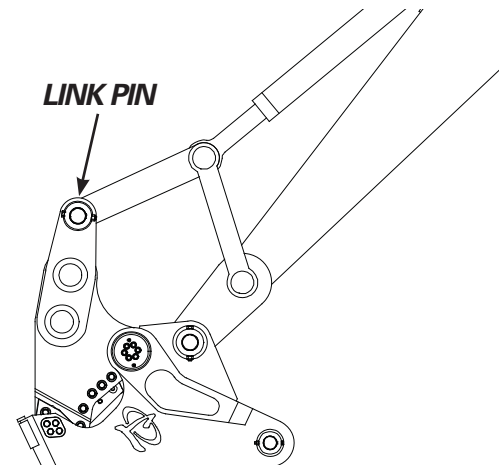

FIGURE 3-2
6. Extend the bucket cylinder and line up the power link with the linkage connection of the BLS Shear as shown in figure 3-2. Install the link pin. Place the collar on the end of the link pin and secure it with the bolt and nut provided.